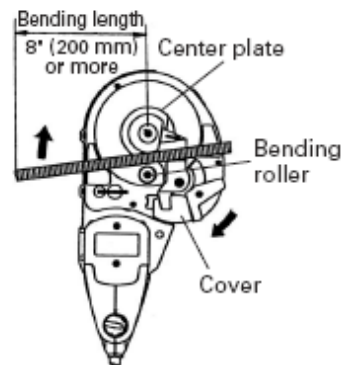
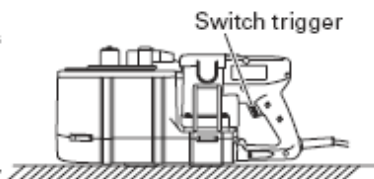

Fig. 14
Fig. 15
- (1) Set the unit in the position with the turntable up as shown in Fig. 14.
- (2) Make sure that the cover is closed.
- (4) Place the rebar on the center plate and set it correctly as shown in Fig. 14.
- (5) Pull the switch trigger and bent the rebar.
- (6) Continue pulling the switch trigger until the motor makes reverse rotation and the bending roller starts to return. (Once the bending roller starts to return, it will automatically return all the way to the home position even if the switch trigger is released.) (Fig. 15)
If the bending length is not long enough, the rebar can come off during bending operation, or it can break into fragments and scatter dangerously. (Fig. 14)